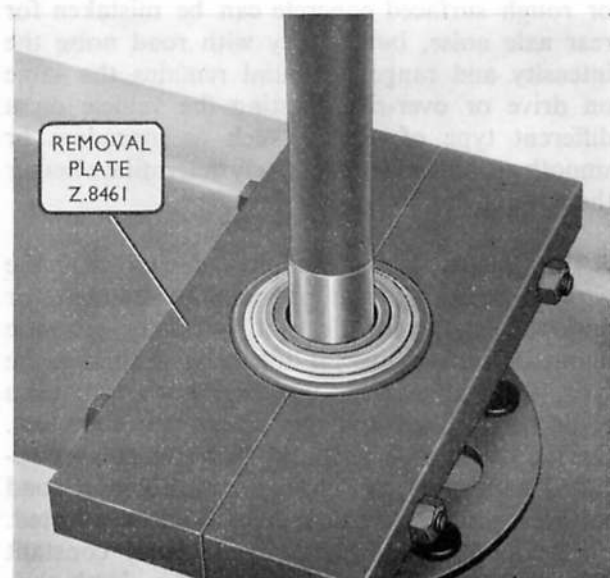

Fig. J.4. Pressing off an axle shaft bearing
3. Press the shaft out of the bearing (Fig. J.4) and withdraw the bearing retaining plate, spacer and distance piece from the shaft.